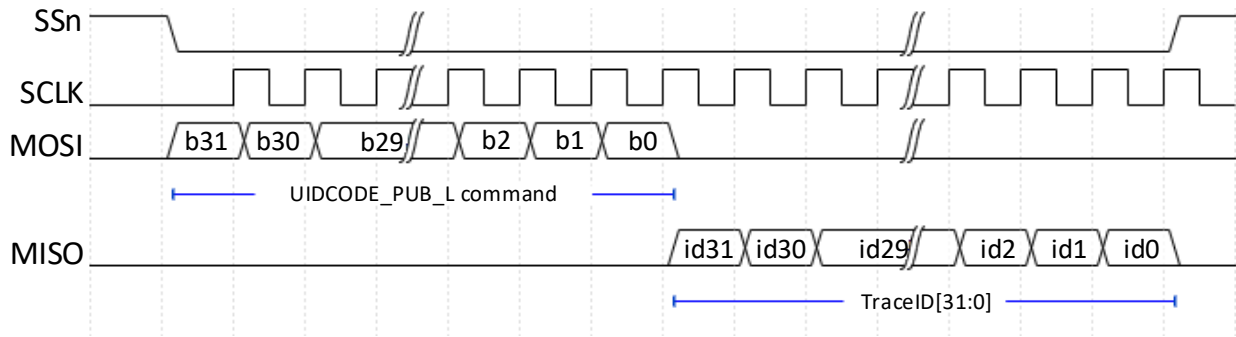
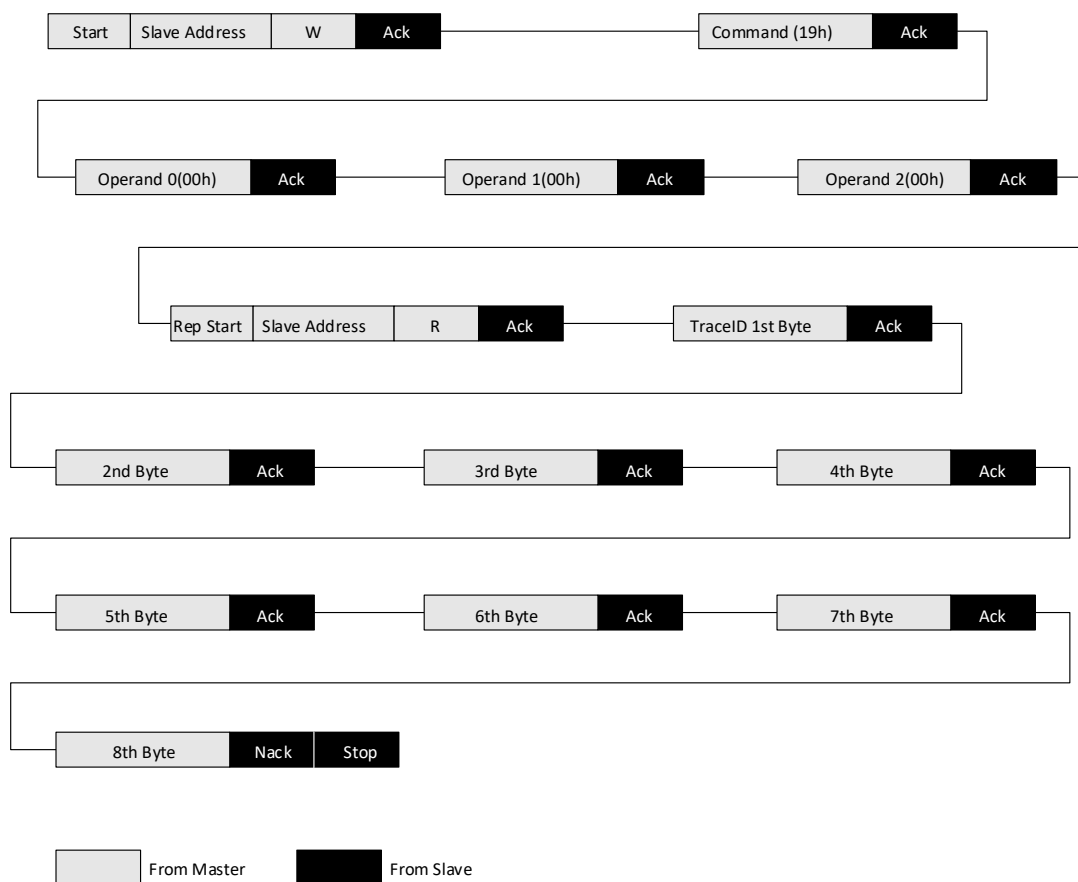

Figure 5.7. TraceID Read through SPI (Avant and Nexus 2 Devices only)
Figure 5.9. TraceID Read through I2C
8. Pull up configuration SN select pin. The complete sequence is shown in Figure 5.7 and Figure 5.9.
Figure 5.9 shows the TracelD read through I2C.